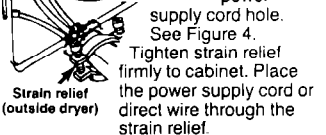

Figure 4
- Tighten strain relief clamp on power supply cord. See Figure 4.
2. Attach a 3/4" U.L.-listed strain relief (U.L. marked on it) to the dryer through the power supply cord hole. See Figure 4. Tighten strain relief firmly to cabinet. Place the power supply cord or direct wire through the strain relief. Tighten screws on strain relief.
7. Tighten strain relief clamp on power supply cord. See Figure 4.